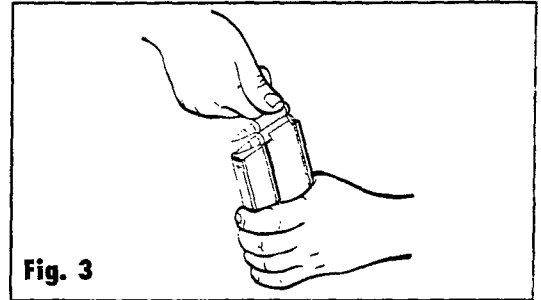

Fig. 3
1. Load the magazine by inserting the cartridges one at a time into the magazine [see figure 3]. **Place the rifle on safety and point it in a safe direction.**